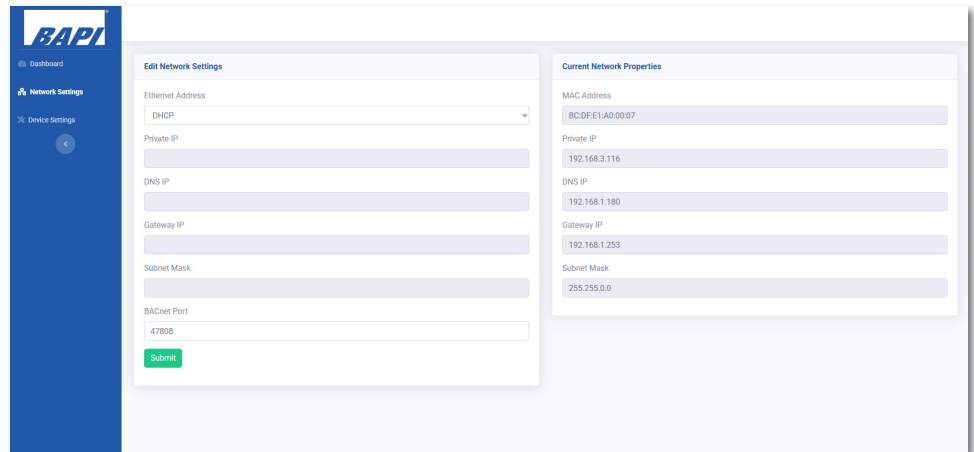

Fig. 6: Network Settings Window
4. Upon login, please make all the necessary changes to network settings (Fig 6), device settings (Fig 7), object settings (Fig 8) and user details.